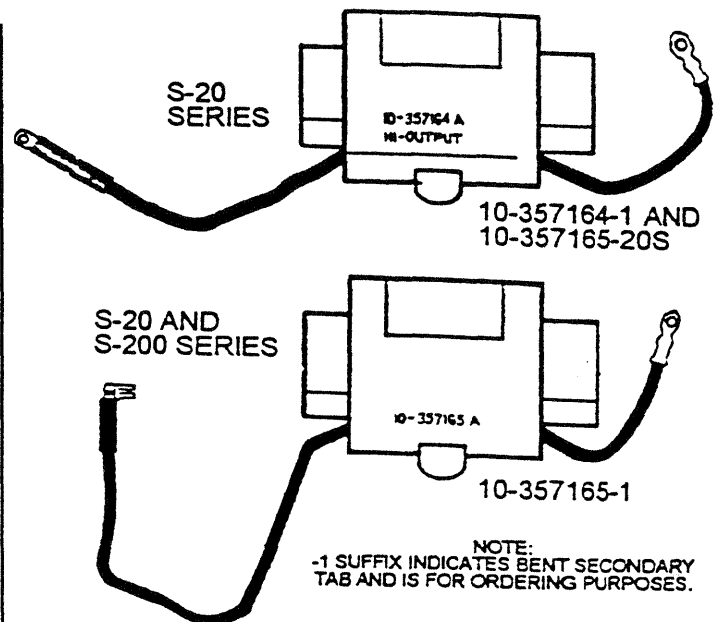
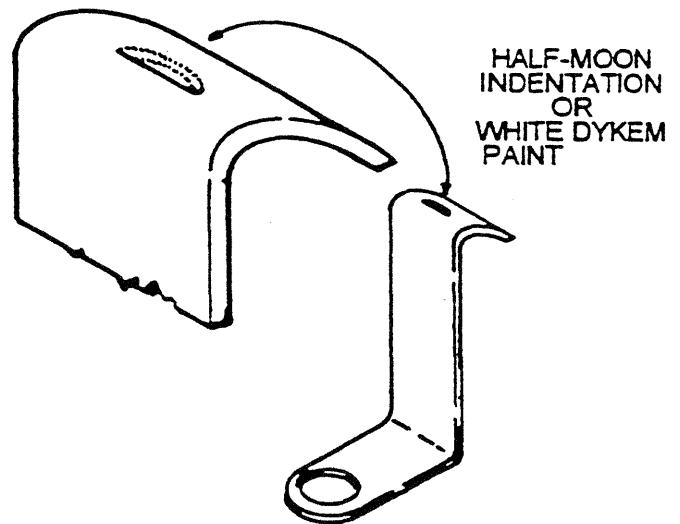

Figure 710. Current Design Coils (58)
Figure 711. Current Design Clamp (57)
- A. Visually inspect capacitor (42) mounting brackets for cracks or looseness. Check capacitor lead for damaged insulation or loose connections. If any damage is found, discard capacitor (42).
7.2.6 Inspect Coil (58) and Clamps (57)
- A. Ensure coil is of current design. Coil must exhibit red epoxy compound, external ground lead and part number 10-357164 or 10-357165 as shown in Figure 710. Coil may be cylinder or barrel shaped. Discard all old coils.
- B. Visually inspect coil (58)
- (1) Inspect core laminations of coil (58) for wear at point of contact with pole shoe laminations in magneto housing. If wear is present, coil will not fit tightly to laminations and must be replaced, regardless of electrical characteristics.
- (2) Inspect leads for damaged insulation or loose connections. Discard coil with these conditions.
- (3) Inspect high tension tab for wear caused by carbon brush (73), indicated by a visible depression in the tab. If tab is worn, repair coil as specified in repair paragraph 8.2.1.
- D. Look at coil core clamps (57) closely. Obsolete design clamps not having identification mark shown in Figure 711 must be replaced with clamps having either a half moon indentation or white dykem (lacquer) paint in the same position on the clamp. Clamps with a circular indentation or no indentation must be discarded. Acceptable clamps may have black oxide finish or silver-colored finish.